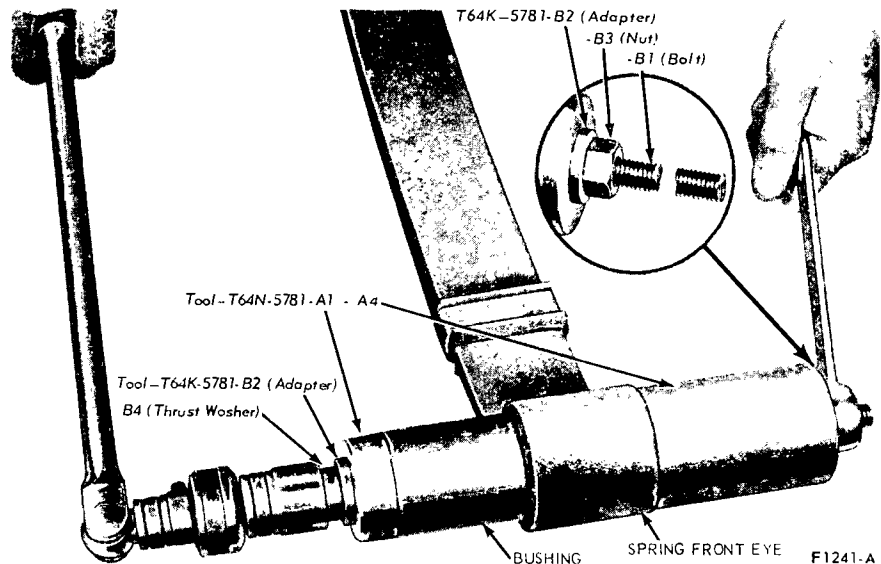

FIG. 17—Rear Spring Front Bushing Installation—Typical
1. Assemble the bushing and the special tool combination to the spring front eye as shown Fig. 17.